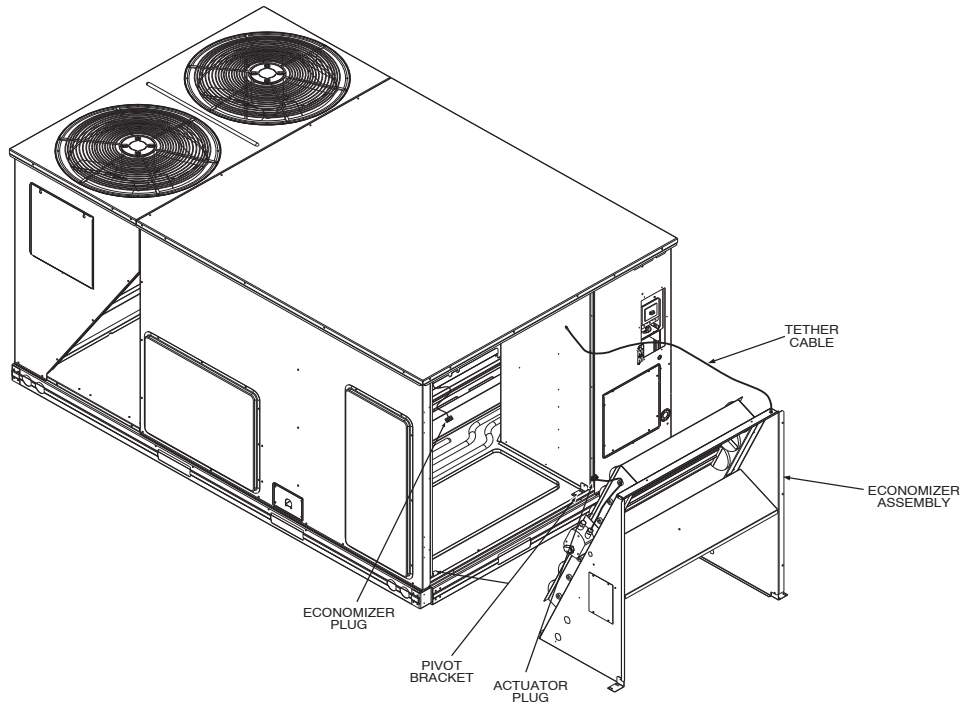
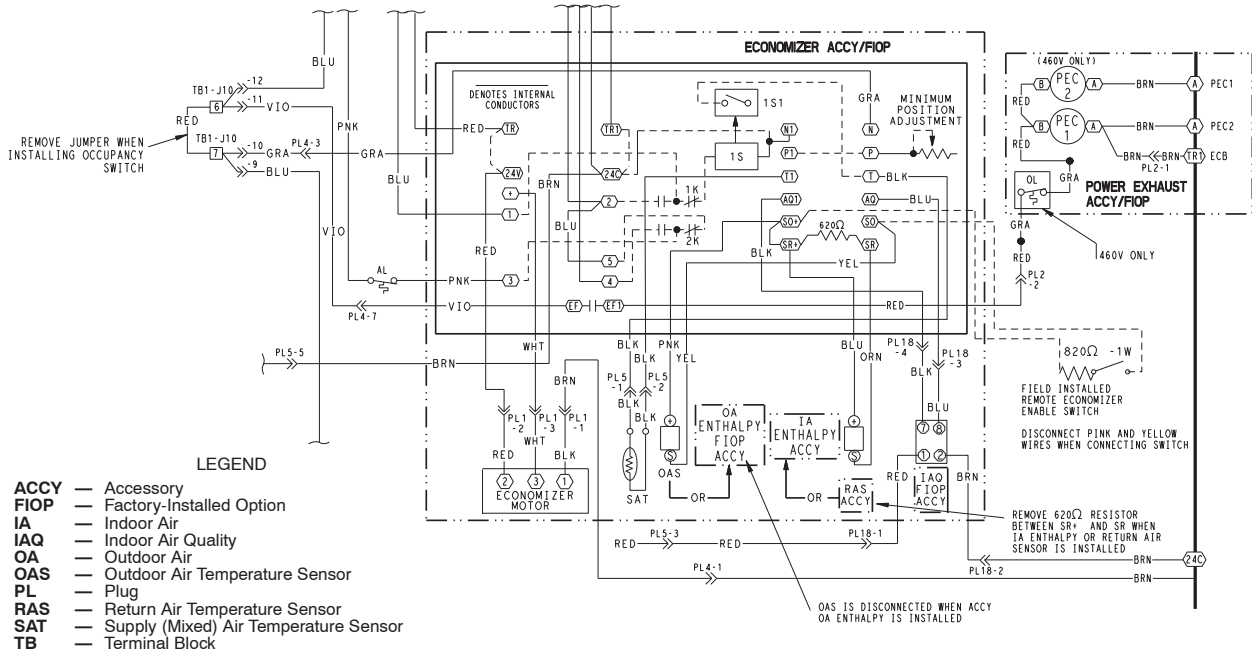
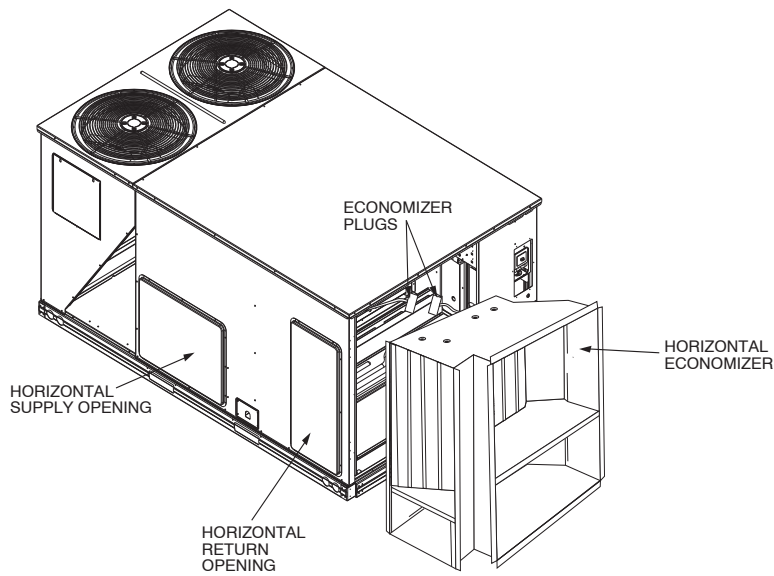

Fig. 2 – Installing Vertical Economizer Assembly (Sizes 08-14 Shown)
Fig. 4 – EconoMi\$er IV Wiring
Fig. 14 – Horizontal Economizer Assembly
3. Locate the 2 EconoMiSer IV pivot brackets provided. Screw the brackets down to the base of the rooftop unit with the no. 10 screws provided. (See Fig. 2 and 3.)
4. Set the EconoMiSer IV in front of the return air opening. Connect the plug coming from the EconoMiSer IV actuator to the EconoMiSer IV plug PL4 in the rooftop unit. (See Fig. 2.) Be sure that wires will not interfere with moving parts. Secure with wire ties if needed. See Fig. 4 for wiring details.
8. Locate the tether cable hanging from the right side of the EconoMiSer IV. The hanging end of the cable must be attached to the unit to prevent the EconoMiSer IV from falling out of the rooftop unit when it is pivoted out. Screw the tether cable in place. (See Fig. 2.)
4. Set the EconoMiSer IV in front of the return air opening. Connect the plug coming from the EconoMiSer IV actuator to the EconoMiSer IV plug PL4 in the rooftop unit. (See Fig. 14.) Be sure that wires will not interfere with moving parts. Secure with wire ties if needed. See Fig. 4 for wiring details.